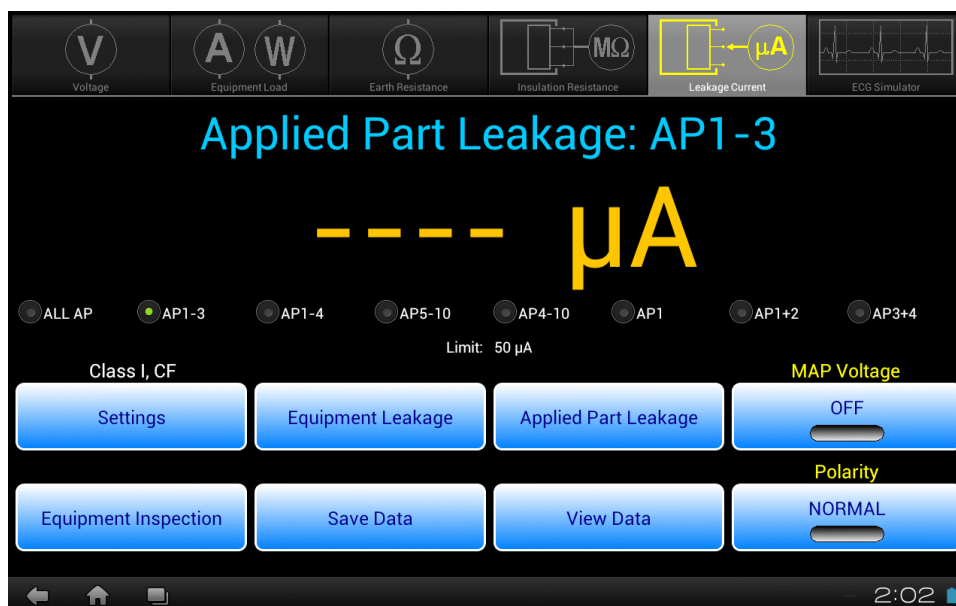
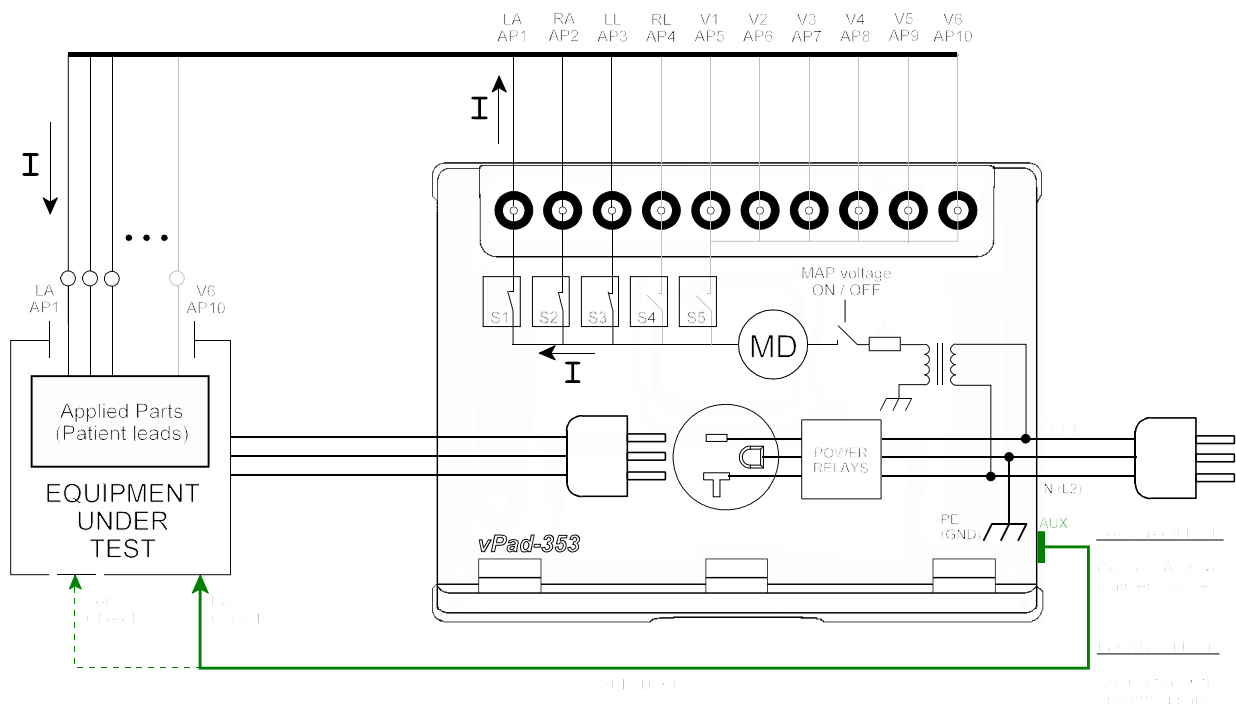

Figure 46 - Applied Part leakage display.
Figure 47 - Applied Part leakage test (AP1 to AP3).
Referring to the display screen shown in **Figure 46**, the **Applied Part Leakage** button may be used to enable testing of EUT patient leads or "Applied Parts" in various combinations or groups, according to the medical functions provided by the EUT. In this test, leakage is produced by applying an isolated AC voltage to the selected patient leads, where the voltage is equal to the mains supply.
The test setup is represented in the schematic of **Figure 47**, in which switches S_1 through S_5 correspond to the Applied Part (AP) radio buttons on the menu of **Figure 46**. Pressing the **Settings** button of **Figure 46** allows you to choose the Type of Applied Parts (BF or CF), which then affects the leakage limit that is indicated below the Applied Part radio buttons.
To prepare for the test, connect the power cord of the EUT to the test receptacle, and connect the EUT patient leads to the corresponding binding posts of vPad-353 as shown in **Figure 47**. If the EUT is Class II (two-wire power cord), use a jumper lead to connect the green "AUX" test jack on the right side of the Base Unit to the EUT enclosure. If the EUT is Class I (three-wire power cord), and the EUT has unearthed conductive parts, use a jumper lead to connect the "AUX" jack to these unearthed parts. See Section 4.9.3 for more information.
Press the **MAP Voltage** button on the display of *Figure 46* to initiate a leakage test of the selected Applied Parts. Leakage current is measured over three ranges (200, 2000 or 20000 μA full scale) while the test voltage is being applied, with the range being automatically selected by vPad-353 as required. This test may be performed with the mains polarity in either Normal condition or Reverse condition.
If the equipment is Class II (two-wire power cord), a test jumper lead must be used to connect the enclosure of the equipment to the "AUX" jack of the vPad-353, as shown in **Figure 47**. If the "AUX" connection is omitted when testing applied parts of Class II equipment, then no leakage current will be measured.
If the equipment is Class I (three-wire power cord), and the equipment has unearthed conductive parts which may contact a person, then such parts should be connected to the earth when measuring leakage of the applied parts. A convenient way to accomplish this is to use a test jumper lead to connect such unearthed parts to the "AUX" jack of the vPad-353, according to **Figure 47**.